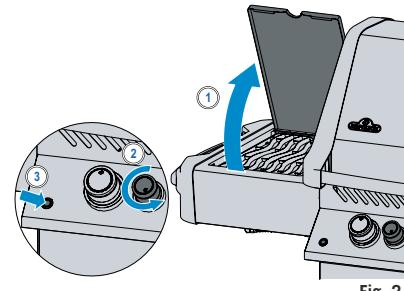

Fig. 2
5. If the burner will not light – turn burner control knob clockwise to the OFF position. Wait 5 minutes. Repeat step 3 and 4. (Fig. 2)